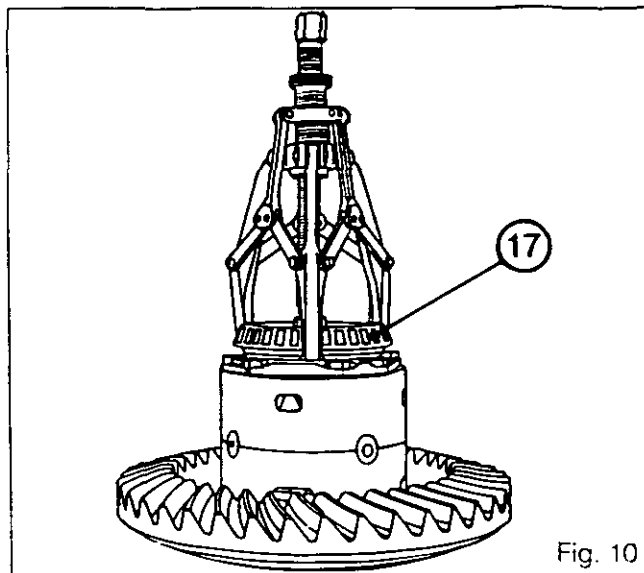
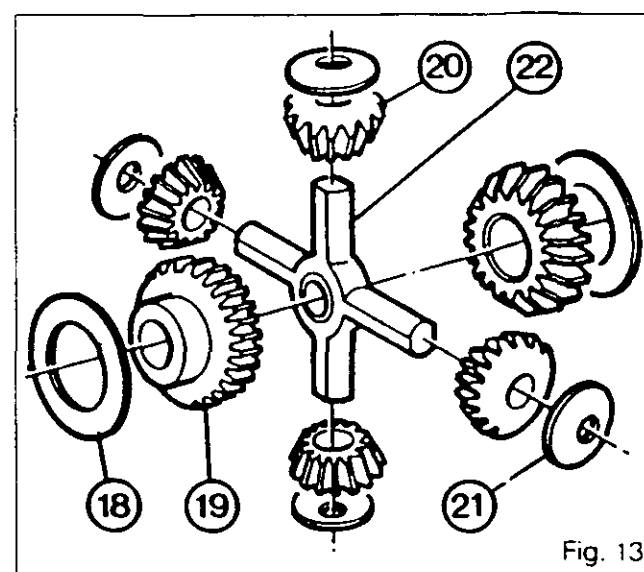

Fig. 10
Fig. 13
- 44. Remove the bearing cones (17) - (28) and the cup (27) (Fig. 10 - 11 - 12).
- 45. Remove the screws (15).
- 46. Remove the fixed coupler (16).
- 47. Separate the two parts of the housing (29).
- 48. Remove the washers (18), the sun gears (19), the planetary pinions (20), the washers (21) and the cross joint (22) (Fig. 13).